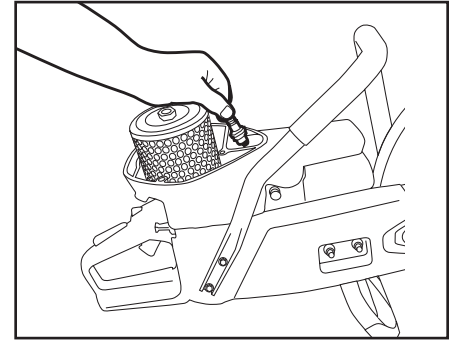

Figure 5
- A worn or fouled spark plug can cause a loss of power, difficulty starting or rough idle (Figure 5).